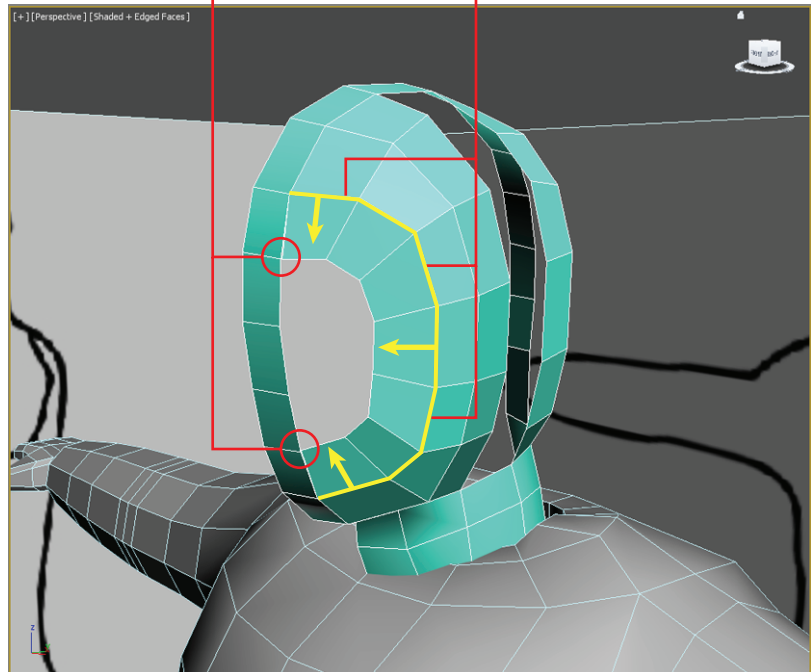

FIGURE 9.9 Use Shift+Move and then use Target Weld.
12. Then in Vertex mode, use Target Weld on either side of the front face strip, as shown in Figure 9.9.